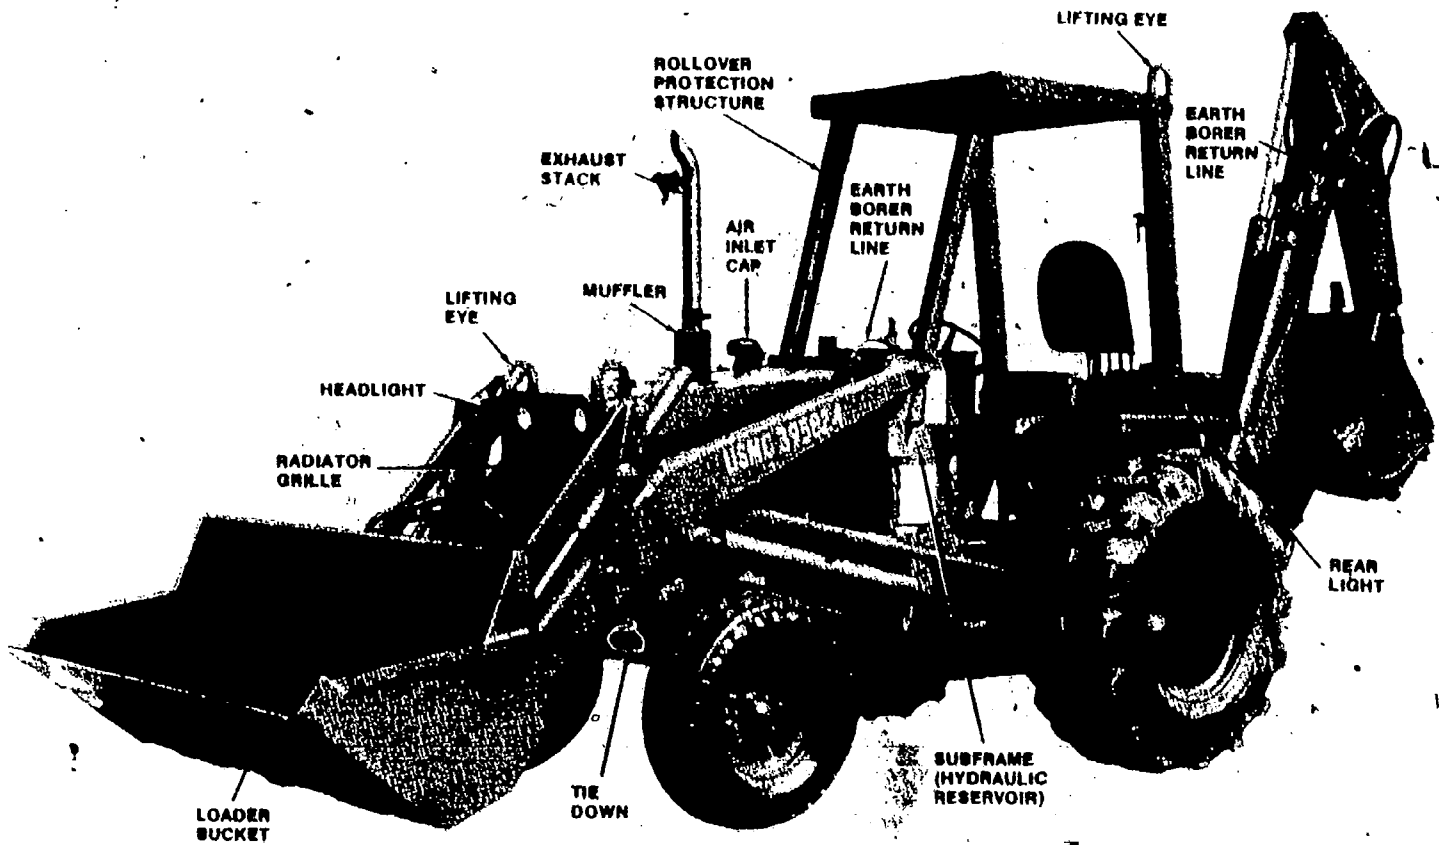
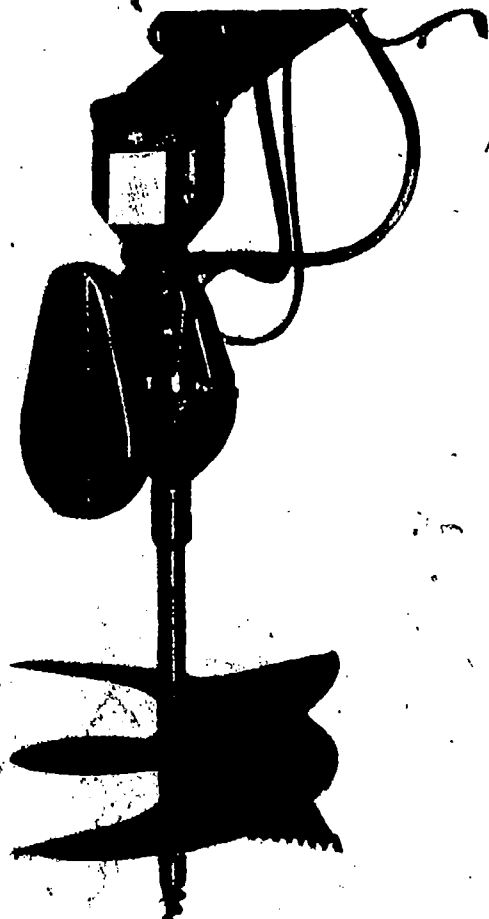

Fig 1-8. Case MC580B tractor.
Fig 1-8a. MC580B earth drill attachment.
- (3) Case MC 580B tractor (fig 1-8). This rubber-tired tractor is equipped with a hydraulically operated loader and a backhoe. A hydraulically operated earth drill (fig 1-8a) is an attachment that can be used when the backhoe is removed. The tractor can ford 36" of water. This tractor is powered by the same engine as the Case MC 450.